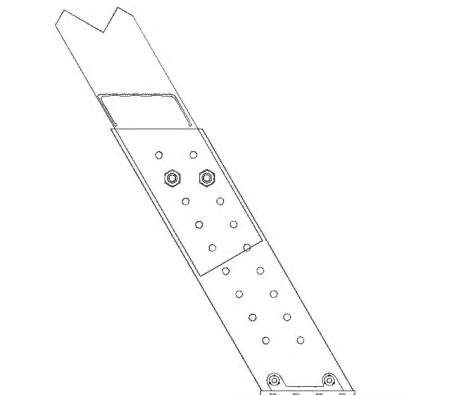

Figure 12
17. Using a  $\frac{1}{4}$ ” drill bit and using the adjustable shoe as a template drill the two holes that are the most centered in the overlap with the adjustable shoe and the side rail. Make sure there are no gaps between any two sections (See Figure 12).
18. Attach the adjustable shoes using (2)  $\frac{1}{4}$ ” bolts, washers and locknuts per side.